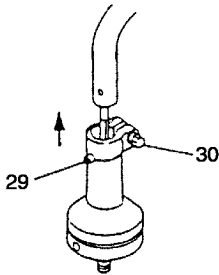

Fig. 35
**Flexible drive shaft (Fig. 35)**